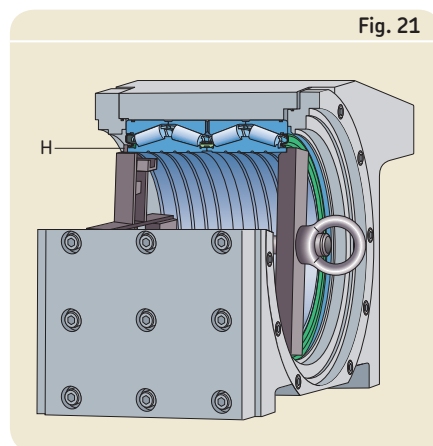

Fig. 21
- Tip the chock and remove the lifting tool. Insert the clamping tool, making sure that the holding shoe (H) engages the inner ring face. Then tighten the clamping tool (→ **fig. 21**)